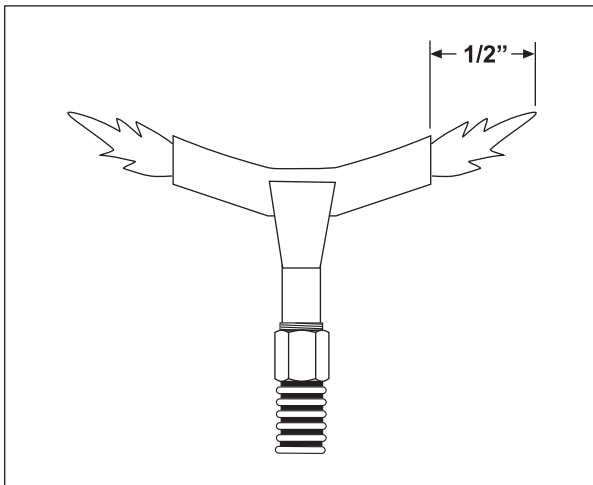

Figure 20
- If the flame does not extend beyond the outer edges of the pilot shield 1/2", or extends more than 1/2", (Figure 20), an adjustment is necessary.